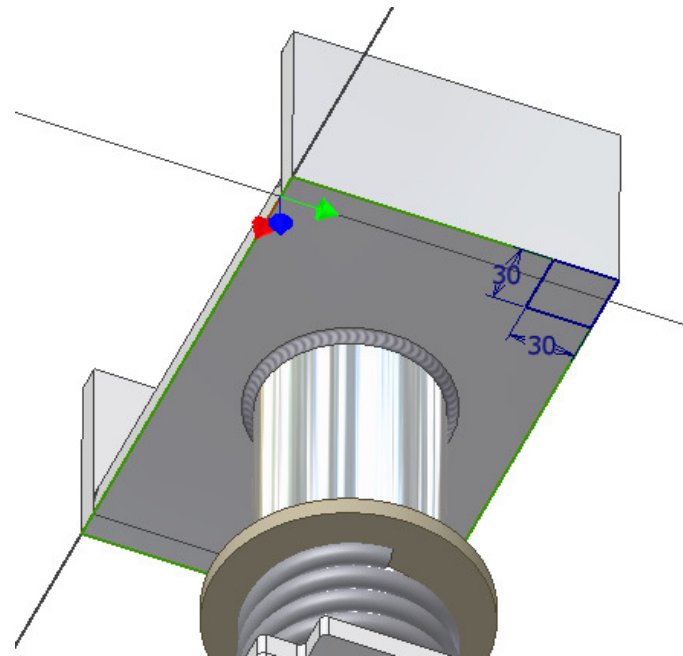

Figure Step 6
Step 6 On a new sketch, draw the shape shown. (Figure Step 6)